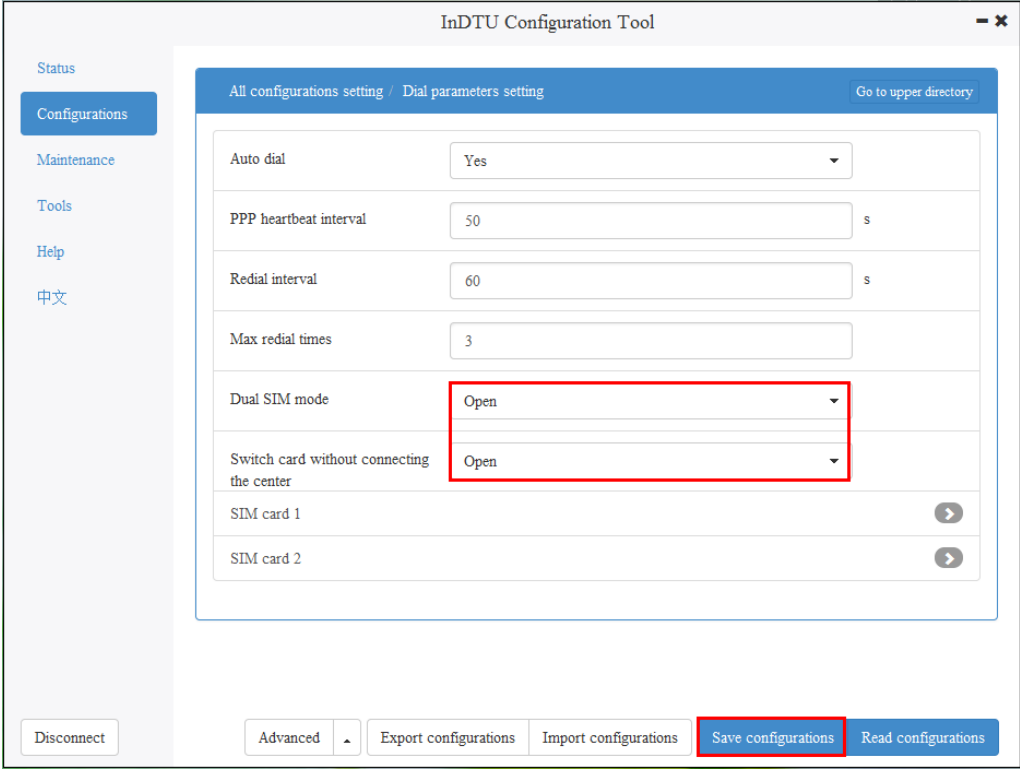

Figure 4-9-1 Dual-SIM switching setting 1
Step 1: Choose **Configurations > All Configurations Setting > Dial parameters setting**, and set **Dual SIM mode** and **Switch card without connecting the center** to **Open**, as shown in Figure 4-9-1.